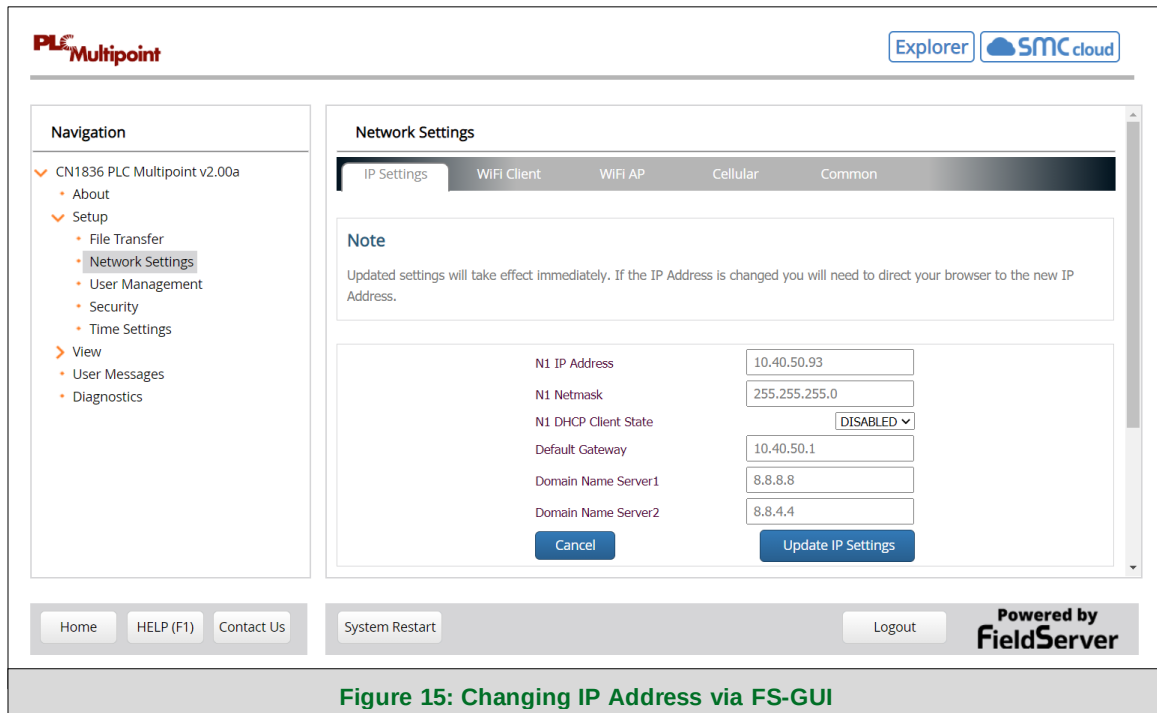

Figure 15: Changing IP Address via FS-GUI
- From the FS-GUI landing page, click on “Setup” to expand the navigation tree and then select “Network Settings” to access the IP Settings menu. (Figure 15)
NOTE: The SMC Cloud button  (see Figure 15) allows users to connect to the SMC Cloud, Sierra Monitor’s device cloud solution for IIoT. The SMC Cloud enables secure remote connection to field devices through a FieldServer and its local applications for configuration, management, maintenance. For more information about the SMC Cloud, refer to the SMC Cloud Start-up Guide.